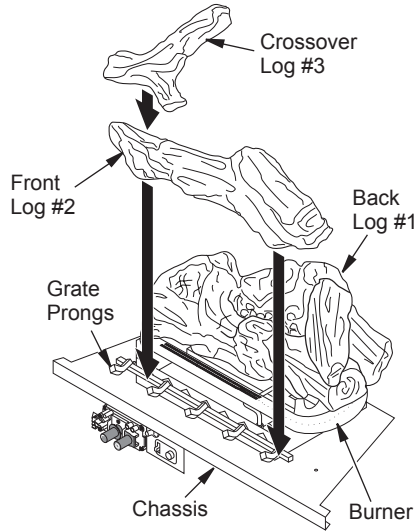
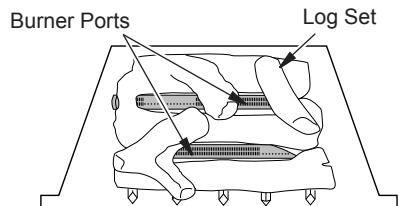

Figure 28 - Installing Log Set
Figure 29 - Installing Log Set, Top View
1. Place back log #1 on grate as illustrated in Figure 28. Make sure middle section at bottom of log set is seated into "U"-shaped cutout in center of chassis (see Figure 28). **IMPORTANT:** Make sure log does not cover any burner ports (see Figure 29).
2. Place front log #2 against front grate prongs as shown in Figure 28.
3. Place crossover log #3 on top of front and back logs as shown in Figure 28.